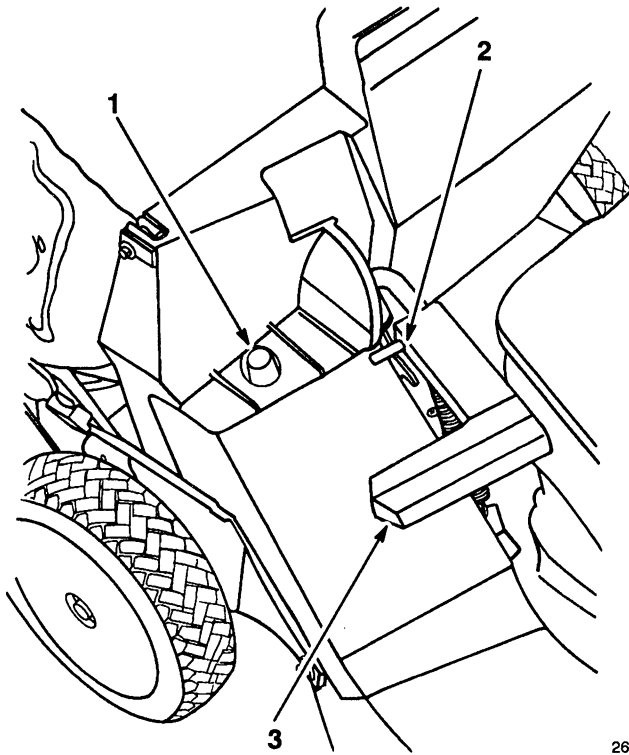

Figure 11
2. Ensure discharge door handle is fully forward and pin is engaged in catch (Fig. 11).
3. **INSTALLING BAG**—Slide hole in bag frame onto retaining post on discharge tunnel (Fig. 11). Set rear of bag frame onto lower handle.
5. **EMPTYING BAG**—Stop engine and wait for all moving parts to stop. Raise discharge door handle and move it forward to engage the locking pin with catch (Fig. 11). Grasp handles at front and rear of bag and lift bag off mower. Gradually tip bag forward to empty clippings.